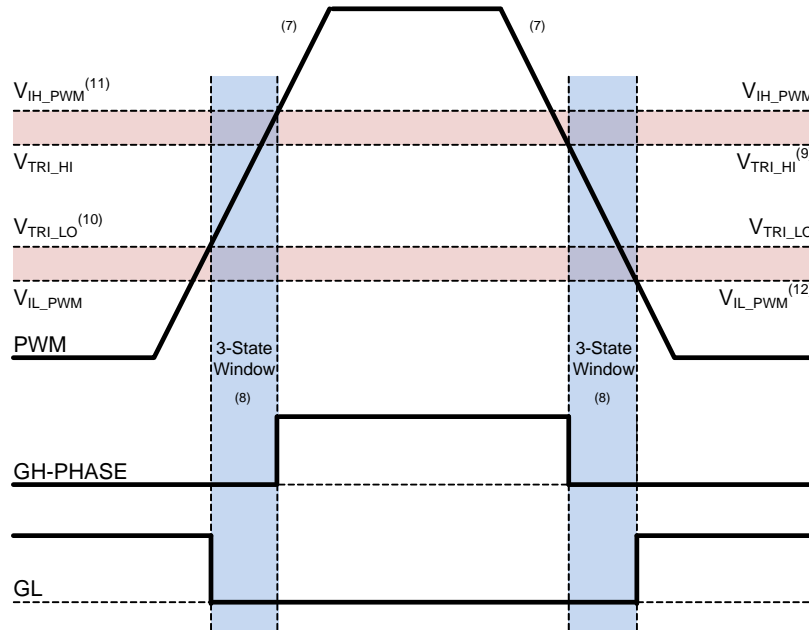

Figure 25. PWM Threshold Definition
6. The timing diagram in Figure 25 assumes very slow ramp on PWM.